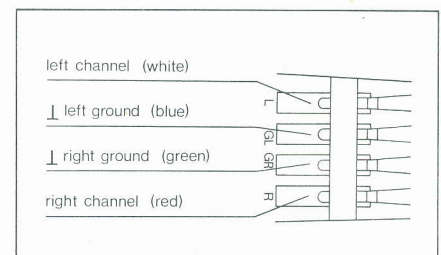

Fig. 15
3. Connect each lead on the cartridge holder to its corresponding pin on the cartridge. Each lead is color-coded as shown in (fig. 15)